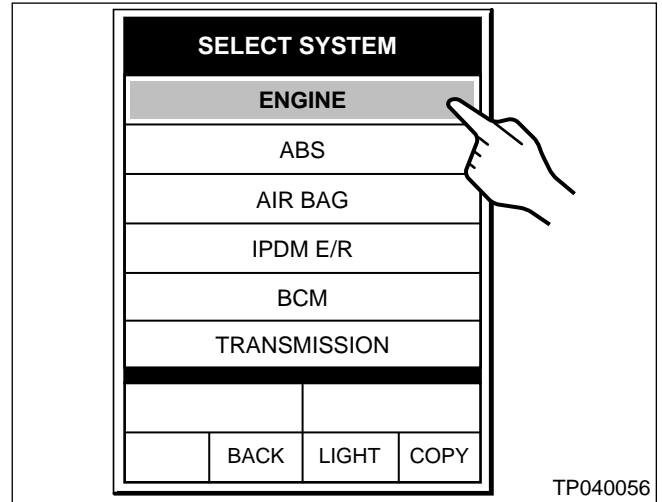

Figure 8
- a. Select **ENGINE** on the "Select System" screen. See Figure 8.